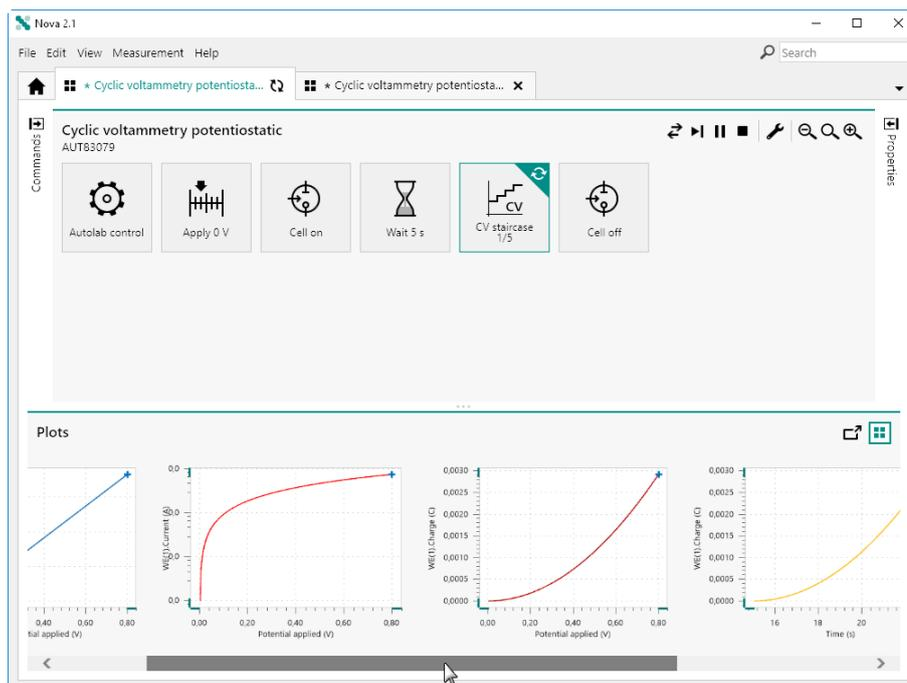

Figure 856 Plots shown in sequence arrangement
- **Sequence arrangement:** all the plots defined in the procedure are shown in sequence in the **Plots** frame scaled to the largest available space. If more plots are defined than can be arranged in the Plots frame, a scrollbar will be added to the frame. Using this scrollbar, it is possible to change the plots shown in the frame (see figure 856, page 707).